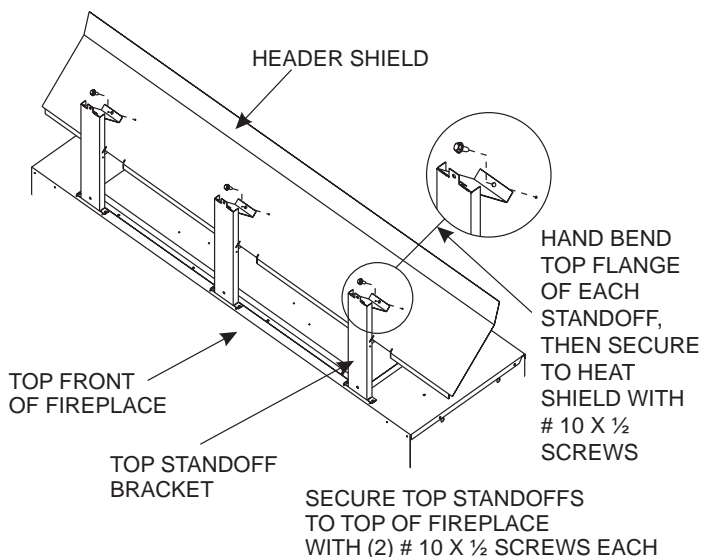
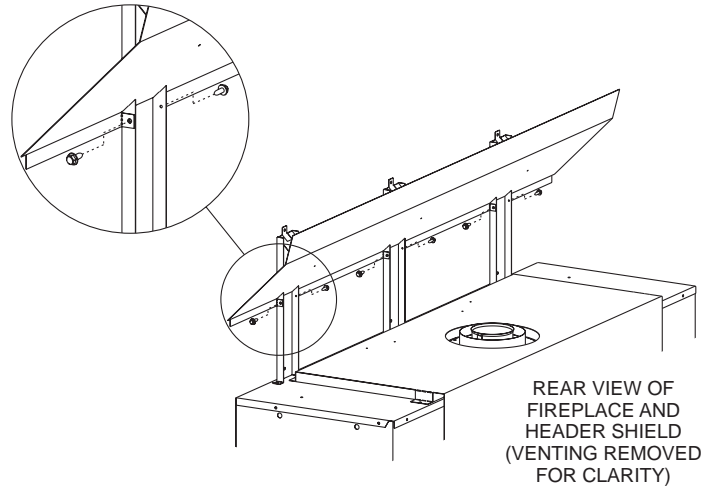

Figure 27
Figure 28
2. Install the **first** Top Standoff and Header Shield assembly to the top of the fireplace and framing header. **See Figure 27.** Install the **second** Top Standoff and Header Shield assembly to the top of the fireplace and framing header. **See Figure 28.** Next, connect the overlapped ends of the two header shields, and secure them together using the provided (3) #10 x 1/2 Hex Head screws.
3. Attach three middle mount framing brackets to the top front edge of the fireplace. These brackets support the supplied non-combustible board above the fireplace. Preset depth to suit facing material (flush or 1/2 inch set back depths). **See Figure 27.**